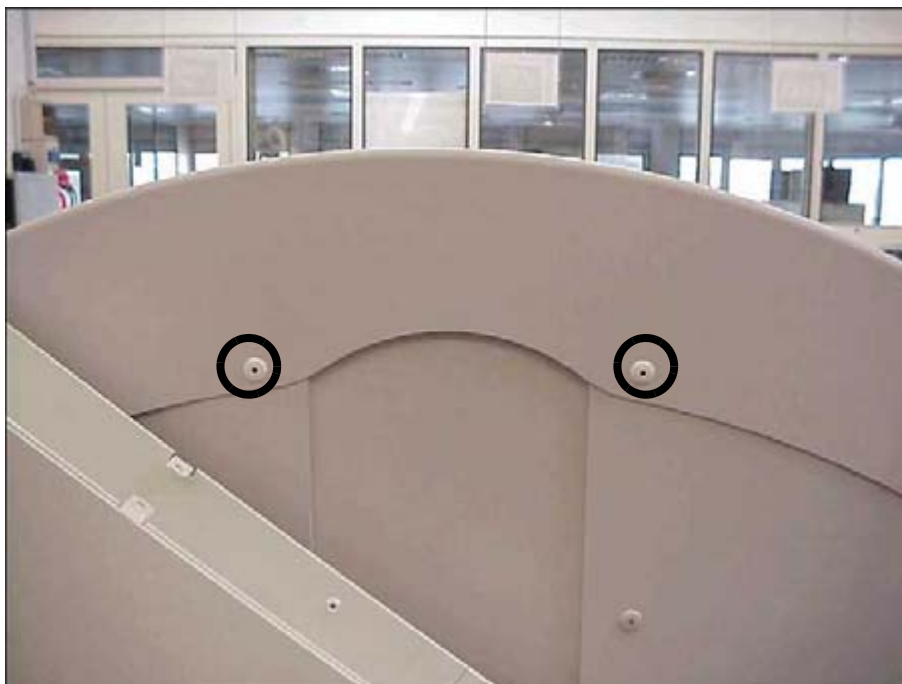

Fig. 109: Lifting base cover
- Attach the cover of the lifting base at the locations marked in (Fig. 109 / p. 87). Use the cover screws M4 x 20 supplied for this purpose.